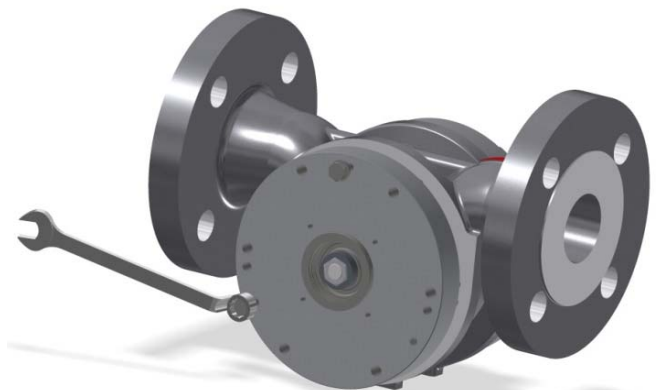

Figure 28 – Jacking up the front cover
3. Install 2 bolts, which were removed earlier, in the jacking positions of the front cover, as shown in Figure 28.